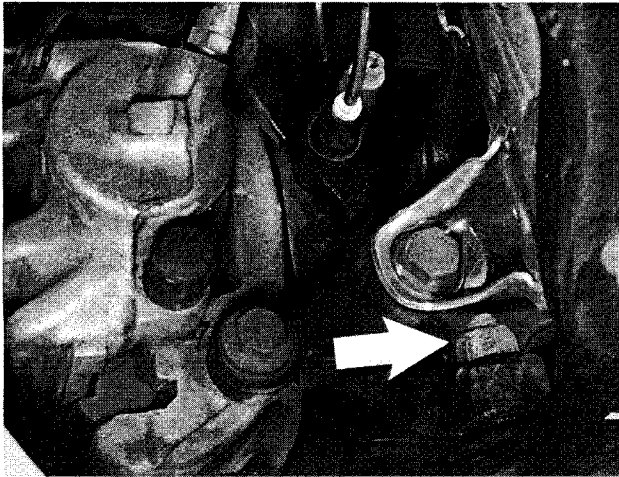

Fig. 8. Control arm ball joint nut at steering arm (arrow).
3. Working at steering arm, remove control arm ball joint nut. See Fig. 8. Press ball joint out of steering arm.